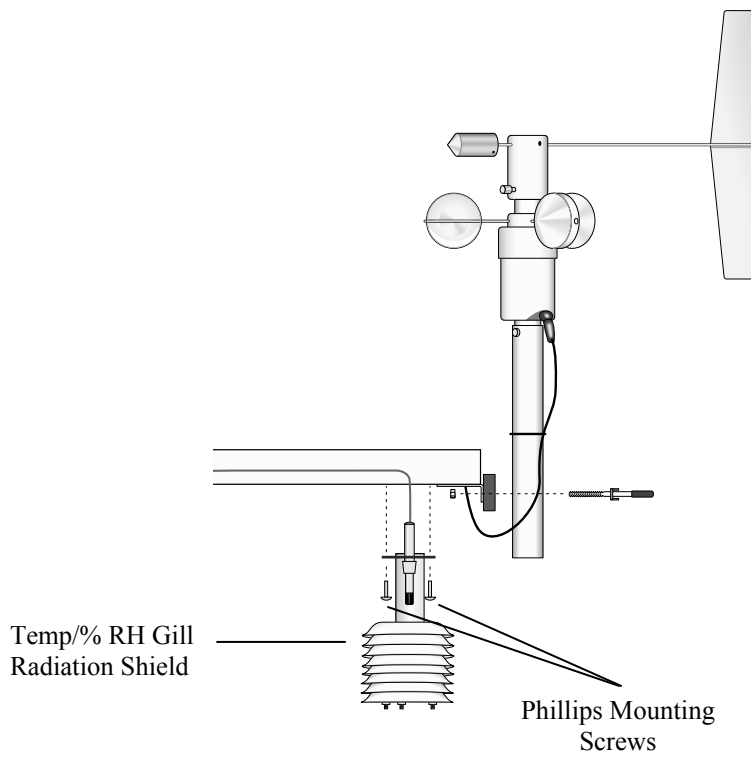

FIGURE 2.4-4. Wind and RH/Temperature Sensor Installation
1. Install the 034B Wind Sensor as shown in Figure 2.4-4 after the sensor arm is securely installed.
3. Insert the mounting shaft through the U-Bolt on the sensor arm. Adjust the mounting shaft so that the cable and connector coming out the end of the sensor arm can plug easily into the mating connector on the 034B. Lightly tighten up the U-bolt clamp nuts. See Figure 2.4-4.